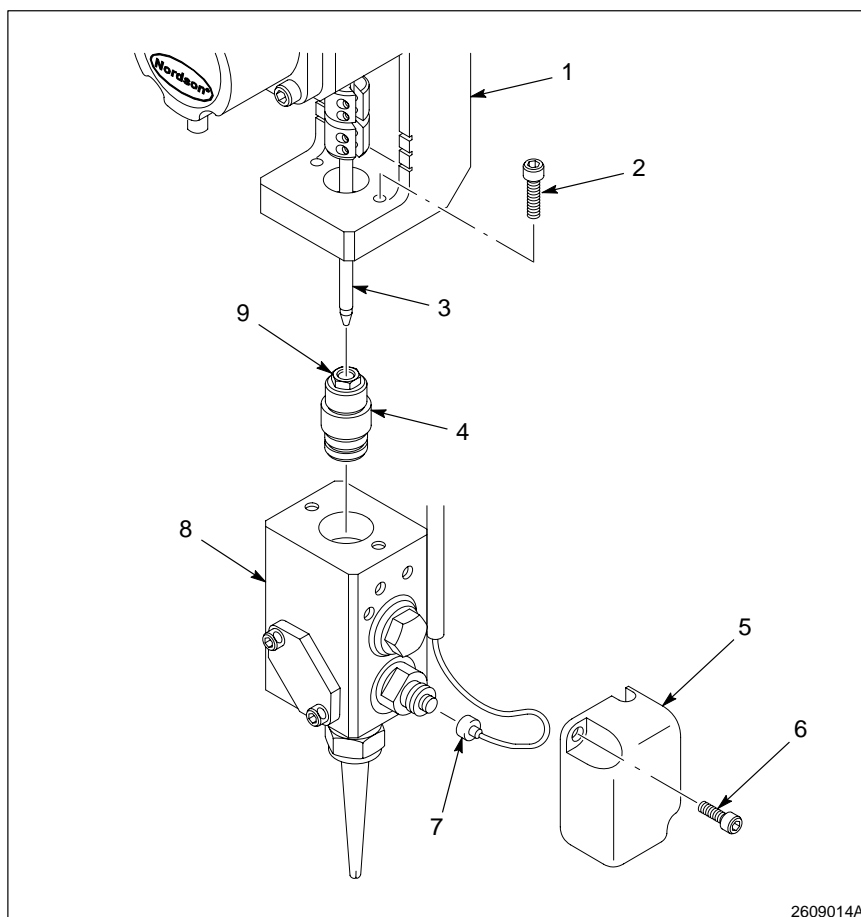

Fig. 6-7 Bonnet Removal
2. See Figure 6-7. Loosen the screws (6) and remove the pressure transducer cover (5) and disconnect the cordset plug (7).
3. Loosen the screws (2) that hold the trimset valve (8) to the actuator assembly (1) and remove the trimset valve. The stem (3) stays with the actuator assembly.
1. See Figure 6-7. Remove the bonnet (4) from the trimset valve (8).
3. If equipped with a packing bonnet, loosen the bonnet screw (9).
1. See Figure 6-7. Place the trimset valve (8) on the actuator assembly (1) and tighten the screws (2).
2. Connect the cordset plug (7).
3. Replace the pressure transducer cover (5) and tighten the screws (6).
4. If equipped with a packing bonnet, tighten the bonnet screw (9) finger tight.